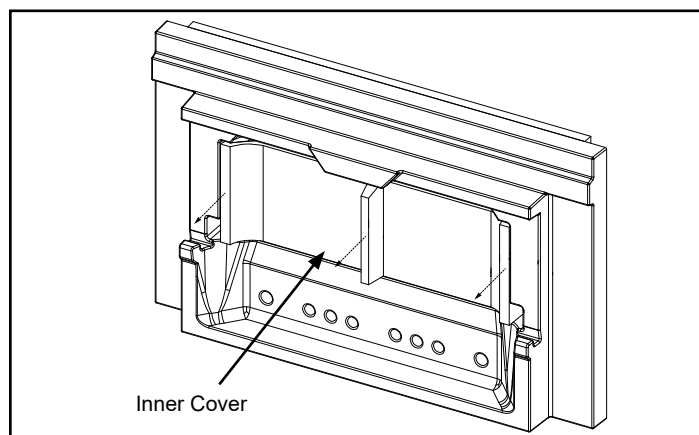

Figure 5.10 - Remove inner cover.
2. Remove the inner cover by pulling it straight out, Figure 5.10.